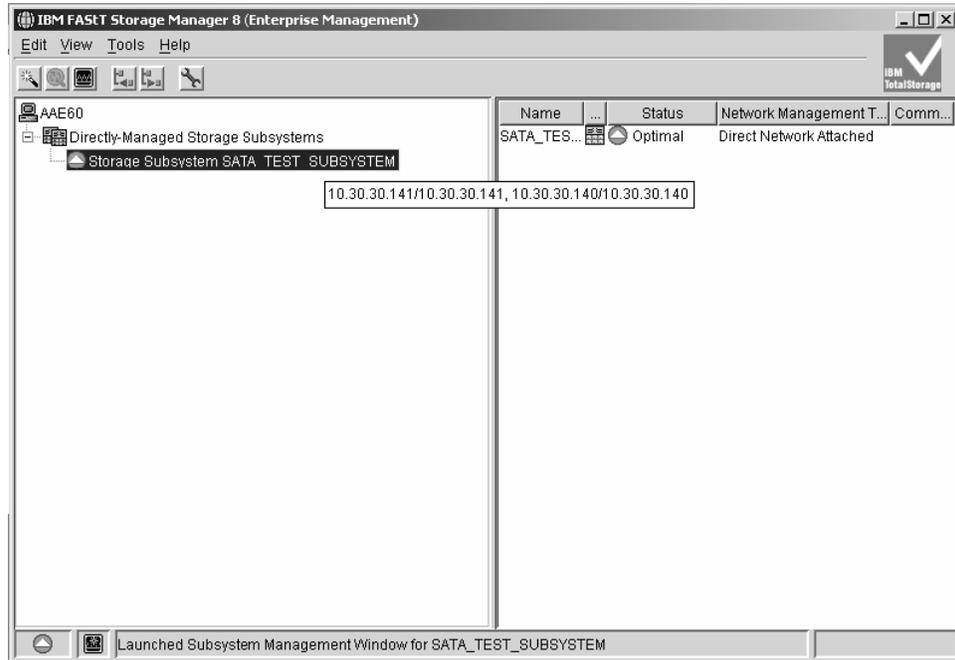

Figure 44. Only one entry appears in the Directly-Managed Storage Subsystem tree
- If Controller A starts up successfully after synchronizing with the firmware and NVSRAM in Controller B, Controller A and Controller B will be displayed as a single entry under the Directly-Managed Storage Subsystem tree in the Enterprise Management window as Figure 44 shows. Right-click the entry for Controller B and select **Manage Device**. A Subsystem Management window should open without being preceded by the Partially Manage Device window.